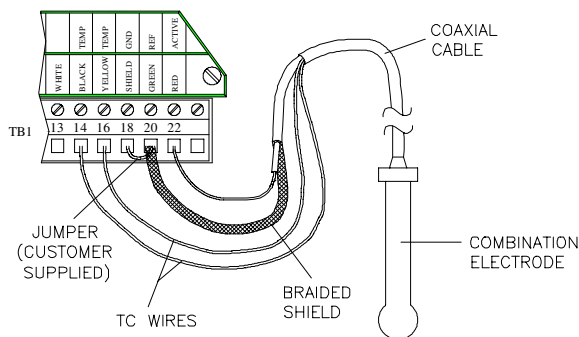

FIGURE 2-7 Connecting Conventional Combination Electrode to Analyzers with “B” Prefix Serial Number
The electrode must be within 100 ft./30 m of analyzer (985 ft./300 m for electrode with preamp). See Figures 2-7 or 2-8 and directly connect electrode's coaxial cable to analyzer.
- Terminals 18 and 20 for analyzers with “B” prefix serial number (Figure 2-7).
- Terminals 14 and 16 for analyzers with “B” prefix serial number, attaching either wire to either terminal (Figure 2-7).